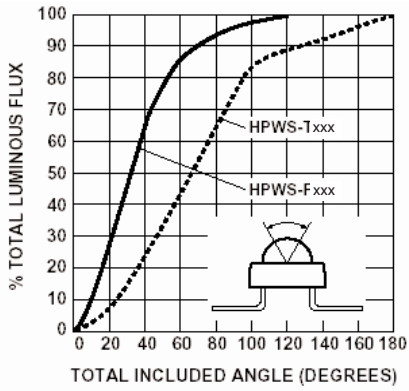

Figure 5. HPWS-xxxx Percent Total Luminous Flux vs. Total Included Angle.
- $\theta_{0.90V}$ is the included angle at which 90% of the total luminous flux is captured. See Figure 5.
4. $\theta_{0.90 V}$ is the included angle at which 90% of the total luminous flux is captured. See Figure 5.